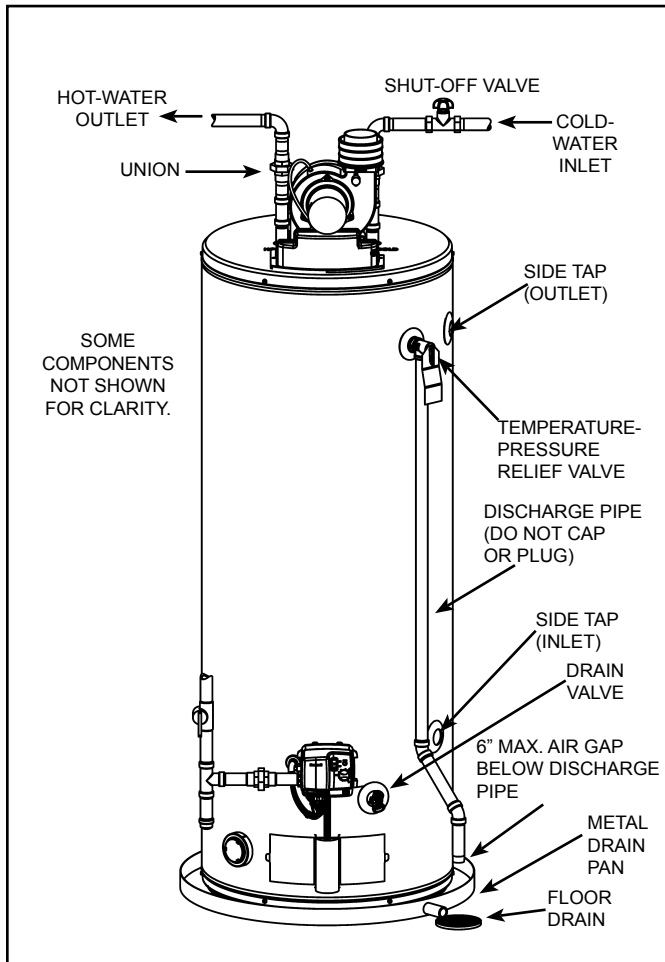

Figure 27.
1. Close the water heater drain valve by turning handle to the right (clockwise). The drain valve is on the lower front of water heater (see Figure 27).